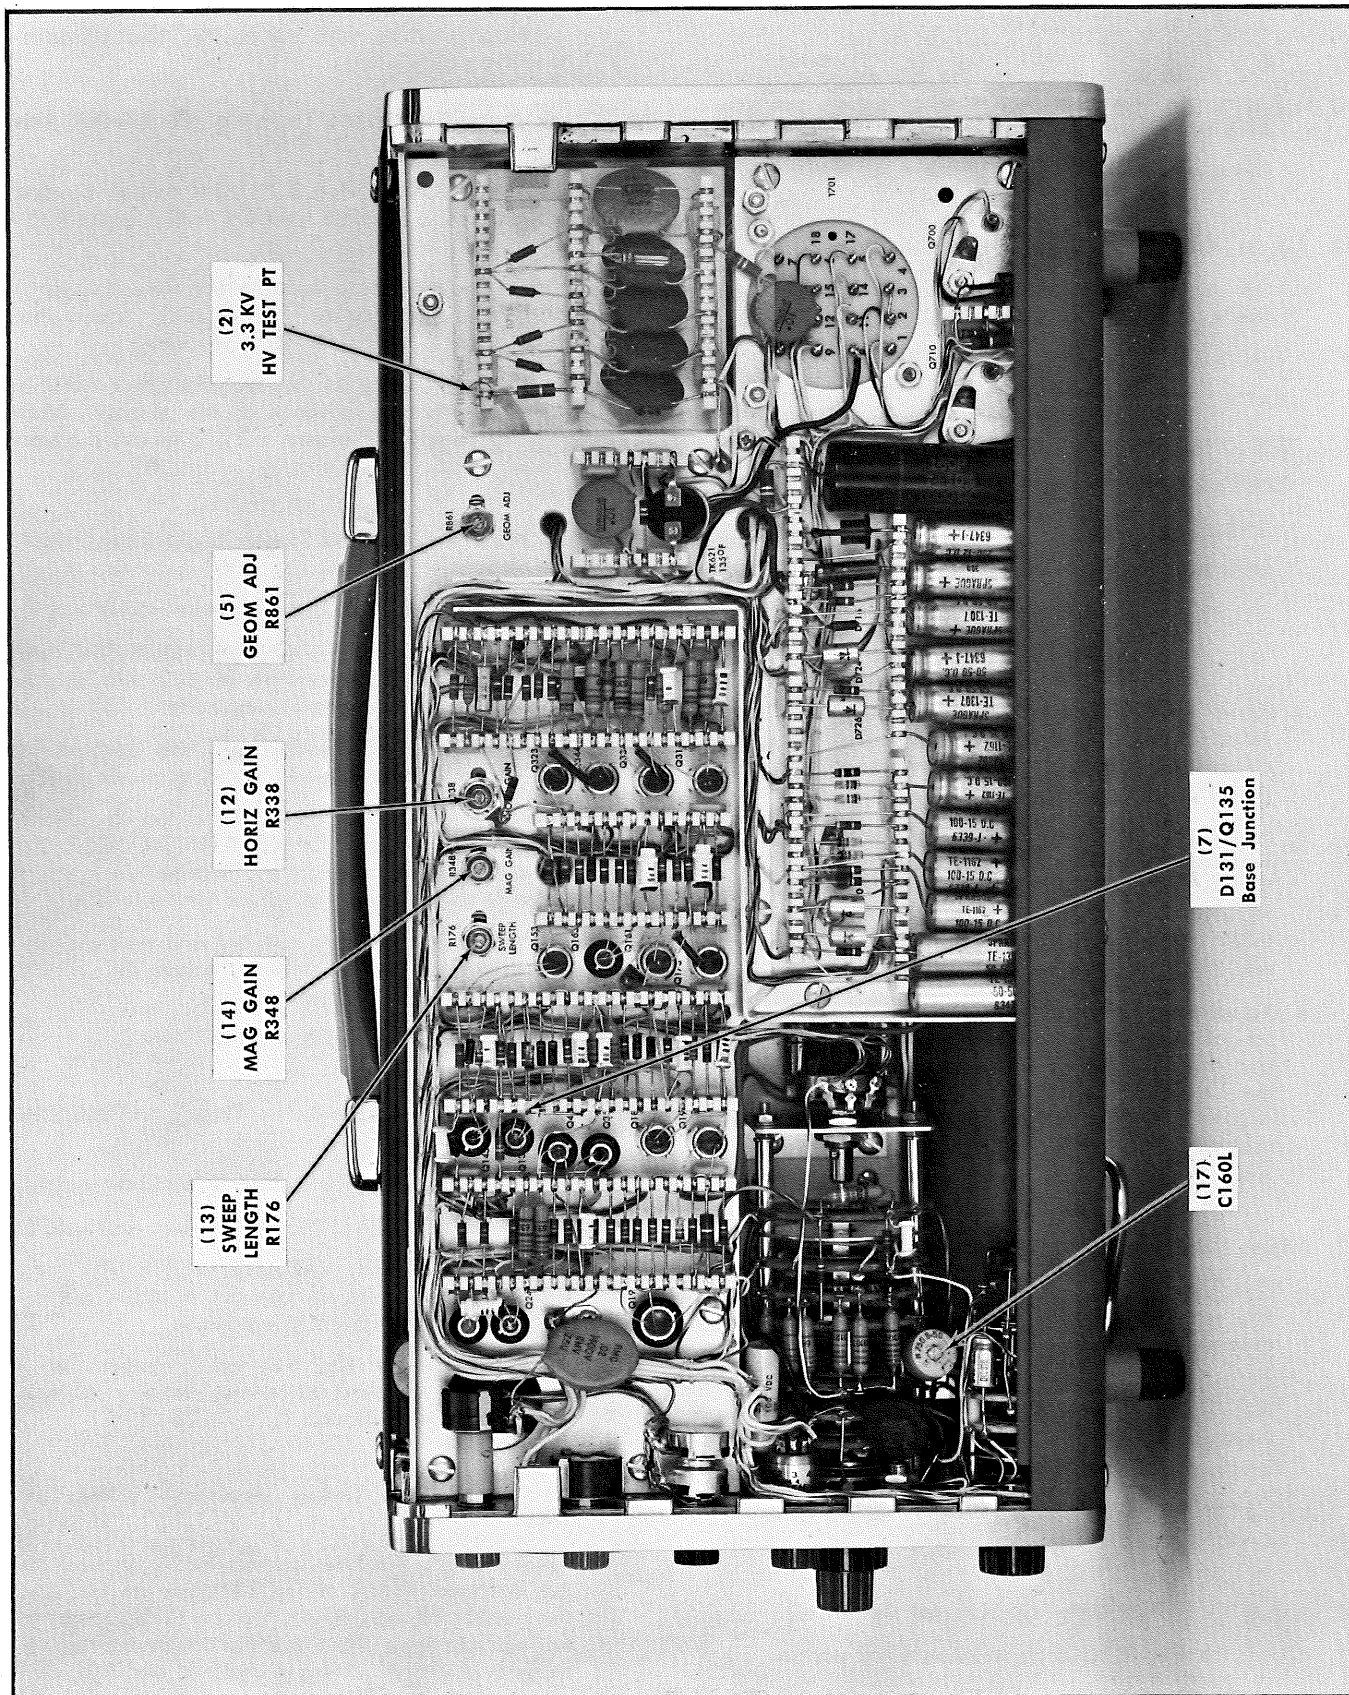

Fig. 6-6. Right-side view of the Type 321A Oscilloscope. The numbers in parenthesis refer to steps in the Calibration procedure.
- d. Adjust the HORIZ GAIN R338 control (see Fig. 6-6) for one highest (1 millisecond) marker per division. Use the HORIZONTAL POSITION control to align the 1-millisecond markers with the graticule lines. The circuit must calibrate between the 1- and 9-division graticule lines in this step and when performing steps 15, 17, and 18.
- b. Adjust the SWEEP LENGTH R176 control (see Fig. 6-6) for five short (100- $\mu$ sec) markers after the 11th 1-millisecond marker. This is equivalent to a sweep length of 10.5 major divisions.
- b. Adjust the MAG GAIN R348 control (see Fig. 6-6) for 1 highest (1-millisecond) marker per 5 major divisions and 2 short (100- $\mu$ sec) markers per 1 major division.
- d. Adjust C160L (see Fig. 6-6) for 1 marker per 2 major divisions over the center 8-major division portion of the graticule.